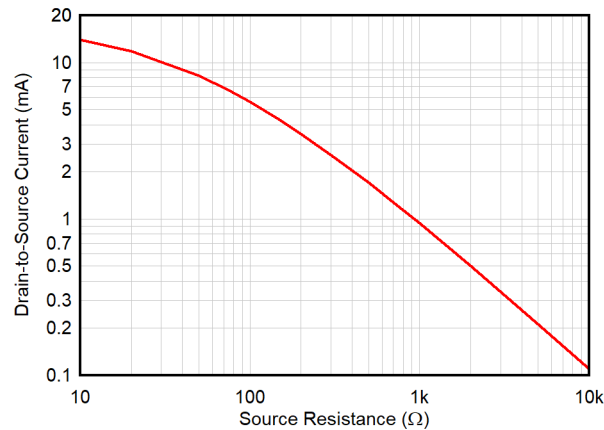

图 9-4. Drain-to-Source Current vs R_S , $V_{DS} = 5\text{ V}$
performance. The JFE2140, however, delivers significantly lower noise performance than most operational amplifiers at the same current consumption. The bias current (I_{DS}) is set by the value of the source resistor, R_S , and the threshold voltage, V_T , of the JFE2140. For JFETs, this threshold voltage is equivalent to the gate-to-source cutoff voltage, V_{GSC} . A graph showing nominal I_{DS} vs R_S is shown in 图 9-4.
R_{S2}	Bias-current setting resistor. This resistor, along with R_{S1} , determine the bias current when using resistive biasing (see 图 9-4). Be aware that both R_{S1} and R_{S2} resistance directly impact noise performance.
- The bias current is set by selecting the desired bias current and noise tradeoff (see 图 6-16). To set the bias current point, adjust the source resistance according to 图 9-4.